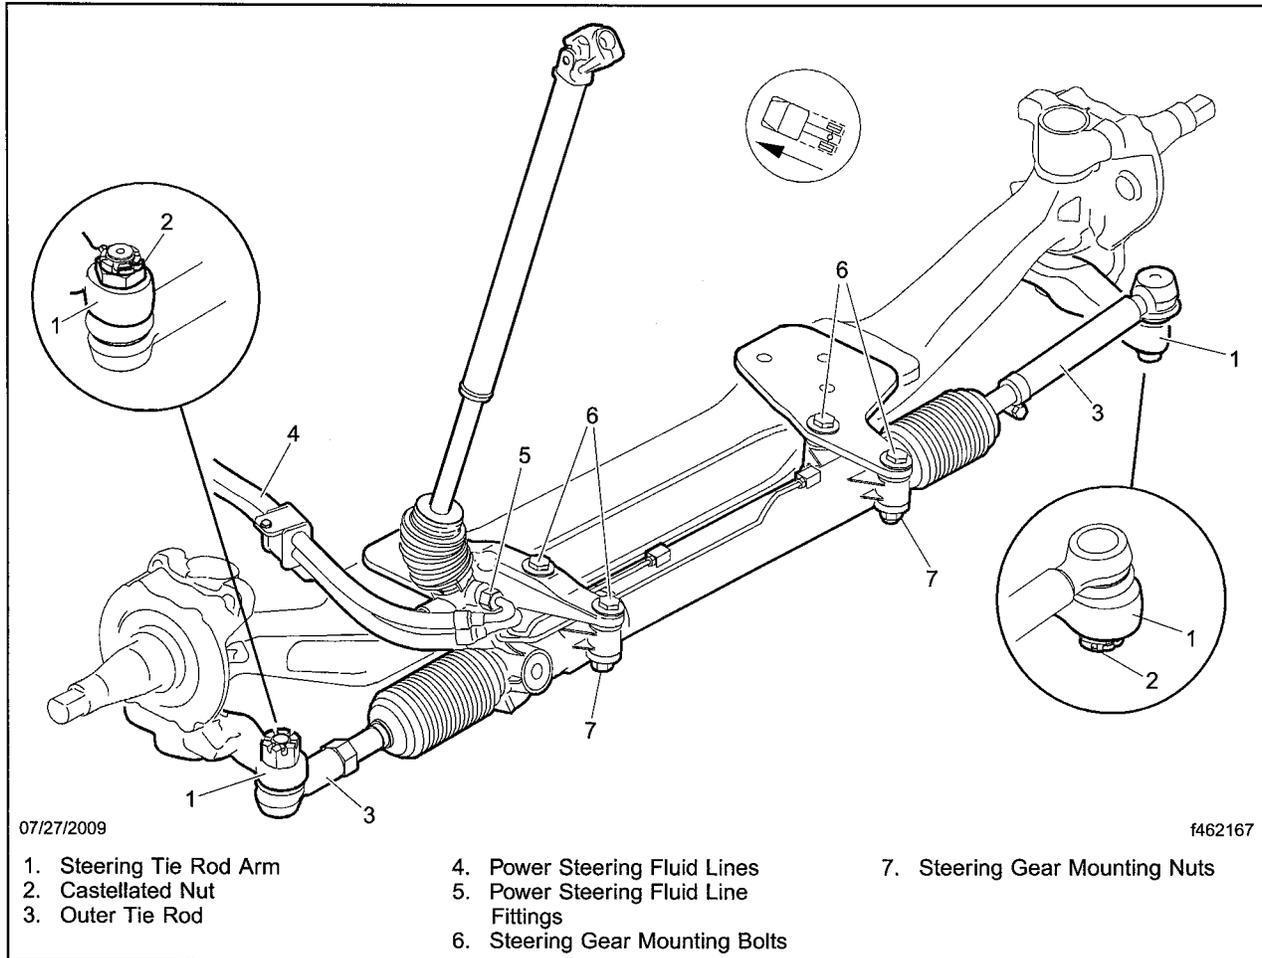

Fig. 16, Rack and Pinion Steering Gear Assembly
14. If needed, install power steering fluid line fittings on the steering gear and tighten 30 to 35 lbf·ft (41 to 47 N·m). See **Fig. 16**, Item 5.